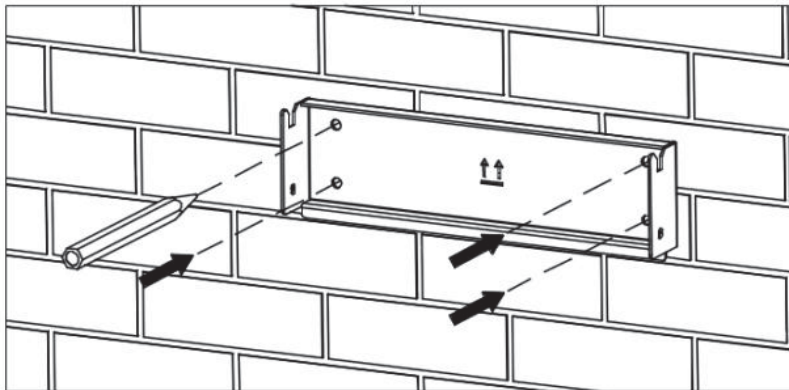

Figure 4.4 Determine the punch position
- (1) Put the mounting plate on the wall to determine the punch position. As shown in Figure 4.4.